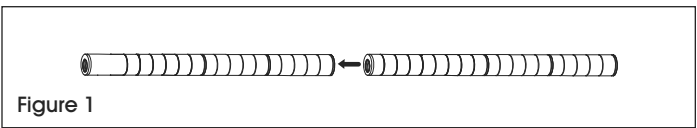

Figure 1
1. Connect posts by screwing together. (See Figure 1)